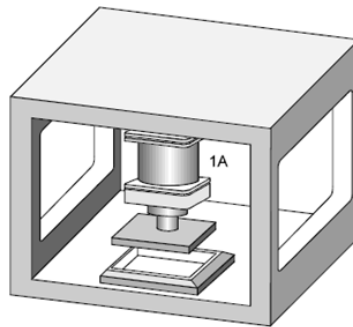

Figure 2 (a) / Rajah 2 (a)
- CLO2 (a) As shown in Figure 2 (a), a double-acting cylinder is to advance when a push button is operated. Upon release of the push button, the cylinder is to retract. The cylinder has a 250 mm diameter and consumes a large volume of air. Draw the pneumatic circuit for this problem using the indirect method.